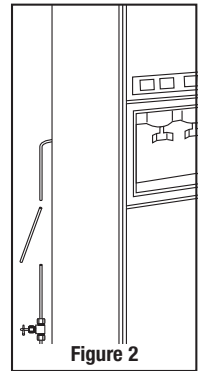

Figure 2
3. Cut and remove a 6" (15.24 cm) section of tubing making sure ends are cut square. (Figure 2)